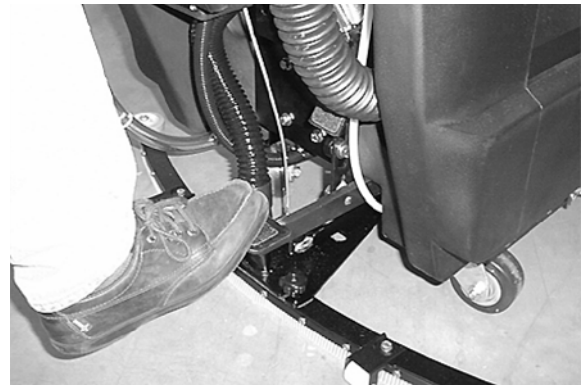

FIG. 5
- Raise scrub head. Step down firmly on bottom brush lift foot pedal to raise (Figure 5).